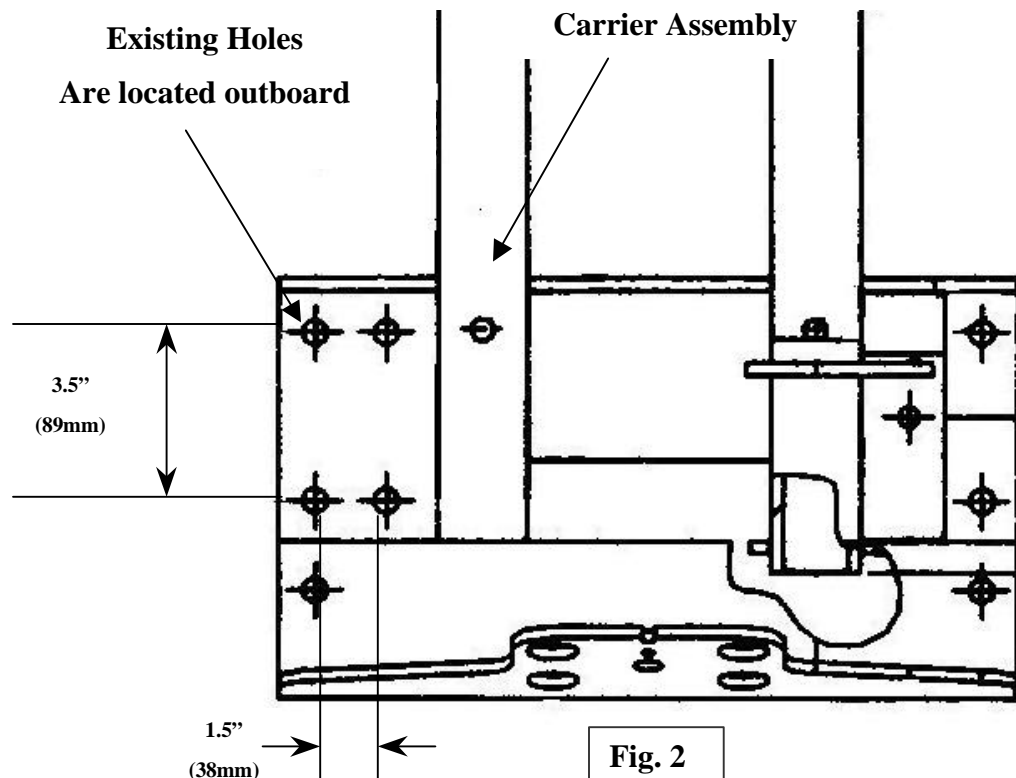

Fig. 2
2. Drill four .531" (17/32") (13.5mm) holes inboard of existing holes on the Carrier Assembly. See layout in Fig. 2.